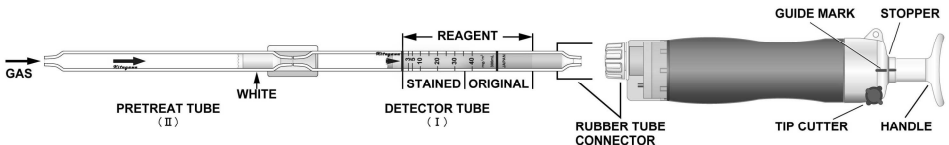

Fig.1
- ① Break both ends of a new detector tube ( I ) and a pretreat tube ( II ), and connect each end of the detector tube and pretreat tube with connection tube as shown in Fig.1.
- ② Insert the detector tube into the aspirating pump securely as shown in Fig.1. (Arrow mark shall point to the pump.)
- ③ Align the guide marks on the handle and stopper of the aspirating pump.
- ④ Pull the pump handle at a full stroke until it locks and wait for 1.5 minutes or until the completion of sampling is confirmed with the flow indicator of the pump (See descriptions about the flow indicator in the instruction manual of the pump).
- ⑤ Push back the handle without removing the detector tube from the rubber tube connector, so that air in the pump will be discharged perfectly. Then repeat the step ③-④ twice.
- ⑥ On completion of sampling, read the scale at the maximum point of the stained layer.